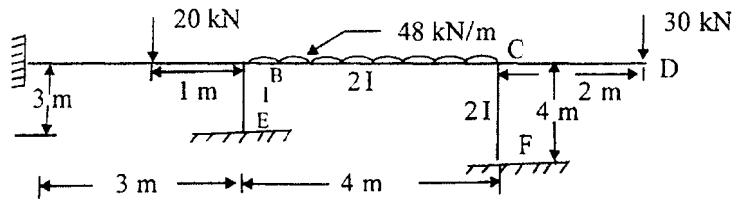

Fig. 1.2
2. Analyse the frame as shown in Fig. 1.2 by slope deflection methods and draw bending moment diagram and deflected shape of the frame. 20